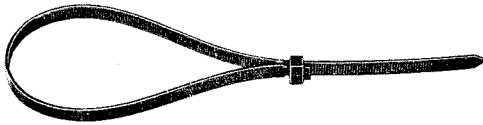

Fig. 17—Plastic Cable Support
3.12 *Plastic Cable Support (Fig. 17)*: Used for attaching building cable directly to parallel runs of power conduit or cold water pipes suspended from ceilings or walls.